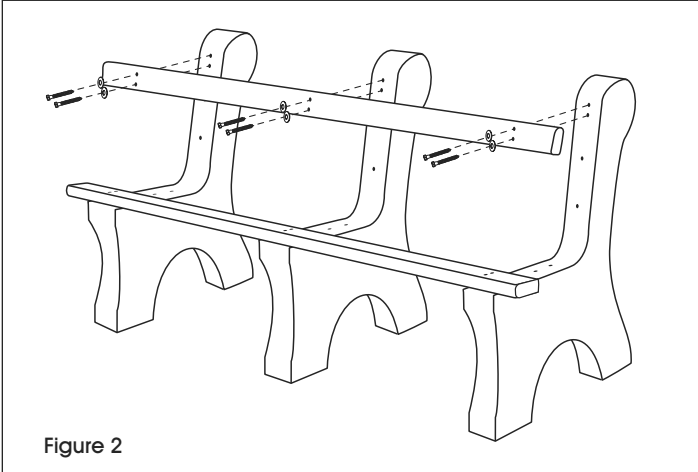

Figure 2
4. Align the second double holed bullnose bench slat on the top set of pre-drilled holes on the bench base backrest. Loosely attach double holed bullnose bench slat to the bench bases with the 3 1/2" lag screws and washers using the power drill and 7/16" socket bit (will tighten later in step 7). (See Figure 2)